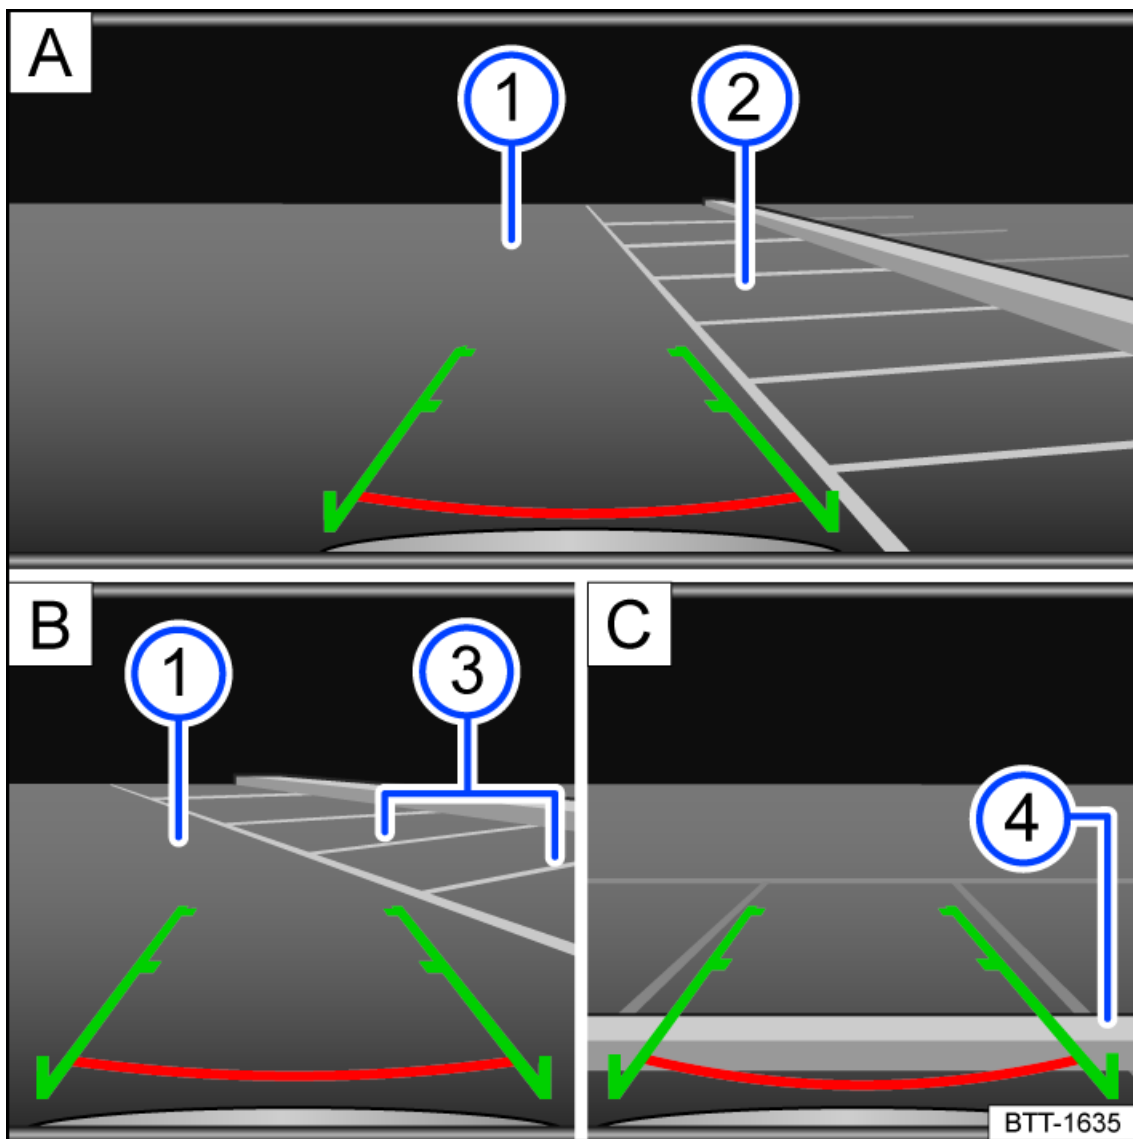

Fig. 151 Infotainment system: Parking with the Rear View Camera system.
1. Position your vehicle in front of the parking space *fig. 151* **A** ②.
line up with the side boundaries of your parking space *fig. 151* **B** ③.
4. Stop when the red horizontal line reaches the rear boundary *fig. 151* **C** ④.